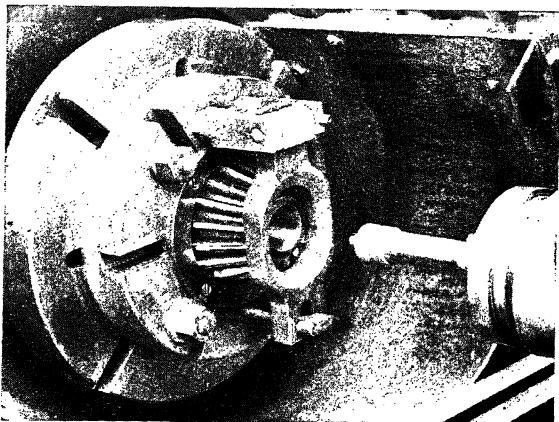

FIG. 22.—Regrinding the bore of a reduction gear.
**Reconditioning Gears.**—The bushings in the reduction gearing may need to be replaced. The old ones are forced out and the hole reground, as in Fig. 22. To aid in this a small flat surface is ground at their largest diameter when the bevel gears are made, concentric with the bore. To regrind, the gear is put in a recessed hole of the right diameter and ground to size.